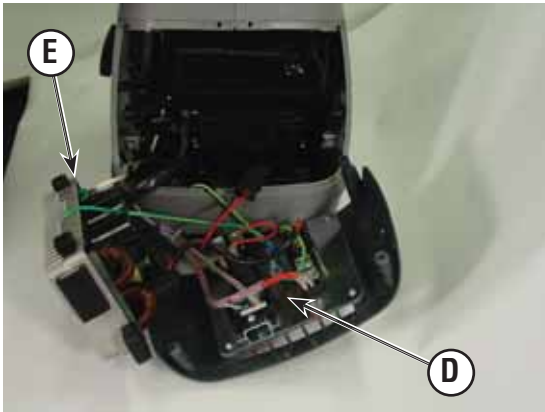

Figure 23
2. Remove control panel from enclosure and, without disconnecting wiring, set control panel aside (**D**, Figure 23).